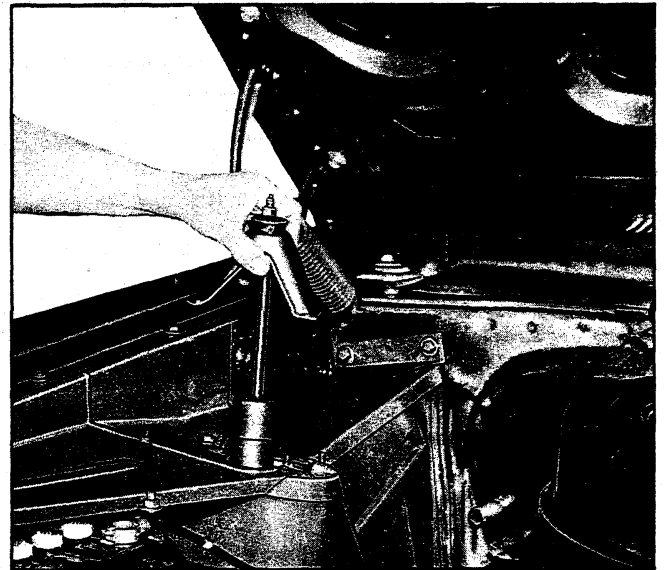

Fig. 16 - Removing Shock Absorber and Bracket - Chevy II
4. Remove shock absorber upper mounting bracket bolts. Lift bracket and shock absorber assembly from vehicle (fig. 16).